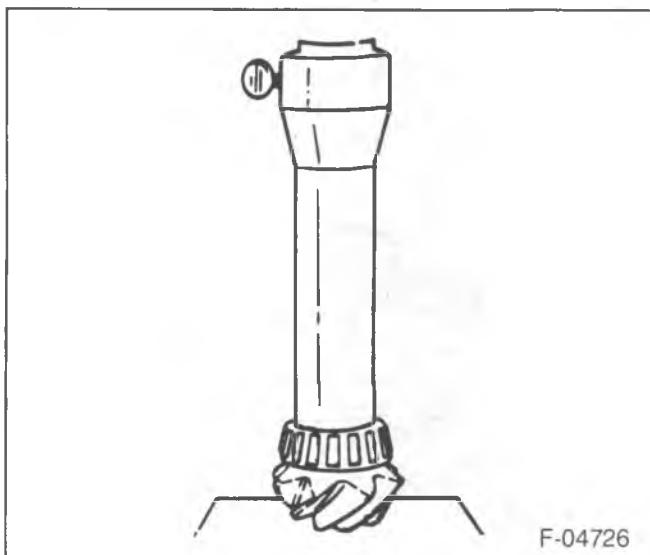
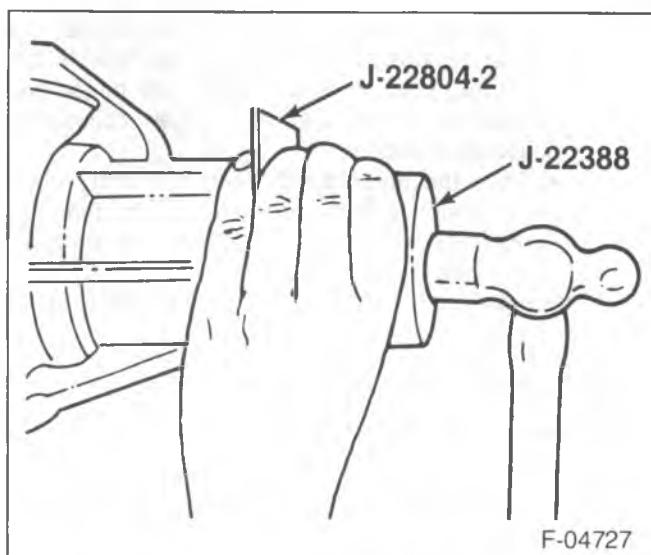
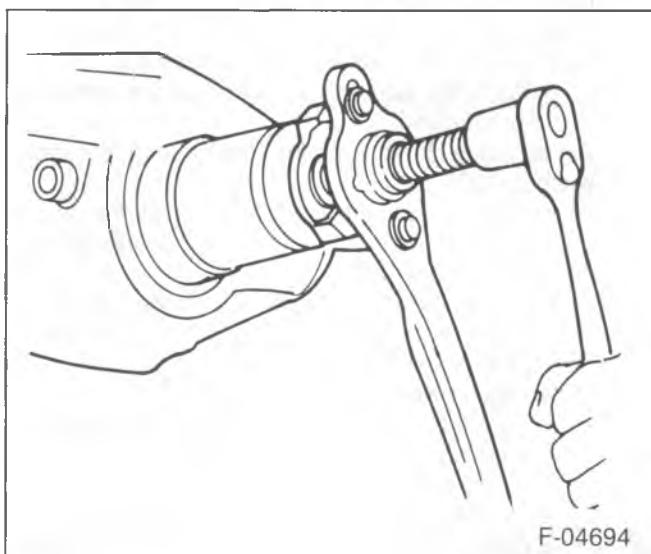

Figure 14—Installing the Pinion Inner Bearing
Figure 15—Installing the Pinion Oil Seal
Figure 16—Installing the Pinion Flange
- 1. The pinion inner bearing (13) to the pinion.
- Press the bearing onto the pinion until the bearing cone seats on the pinion shim(s) (figure 14).
- 2. A new collapsible spacer (11).
- 3. Pinion (15) to the axle housing.
- 4. Outer pinion bearing (10) onto the pinion using J 5590.
- 5. Pinion oil seal (9) using J 22388 and J 22804-01 (figure 15).
- 6. The pinion flange (8) to the pinion by tapping it with a rawhide hammer until a few threads show through the pinion flange.
- 7. The pinion washer (7) and a new nut (6) while holding the pinion flange with J 8614-01 (figure 16).